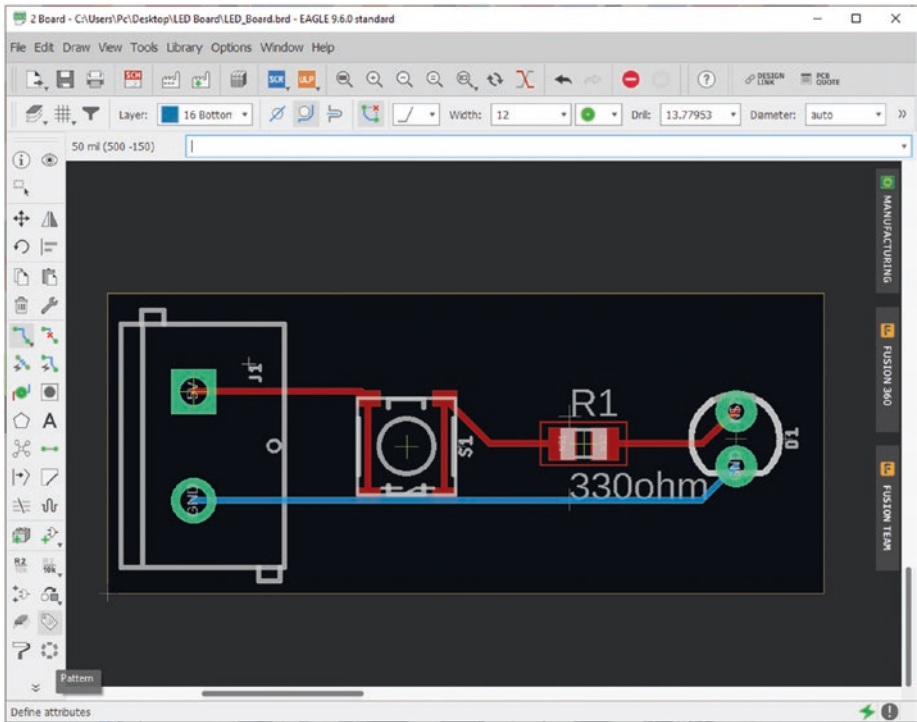

Figure 5-79. Final board
1. Go to the Board Layout window for your project. See Figure 5-79.